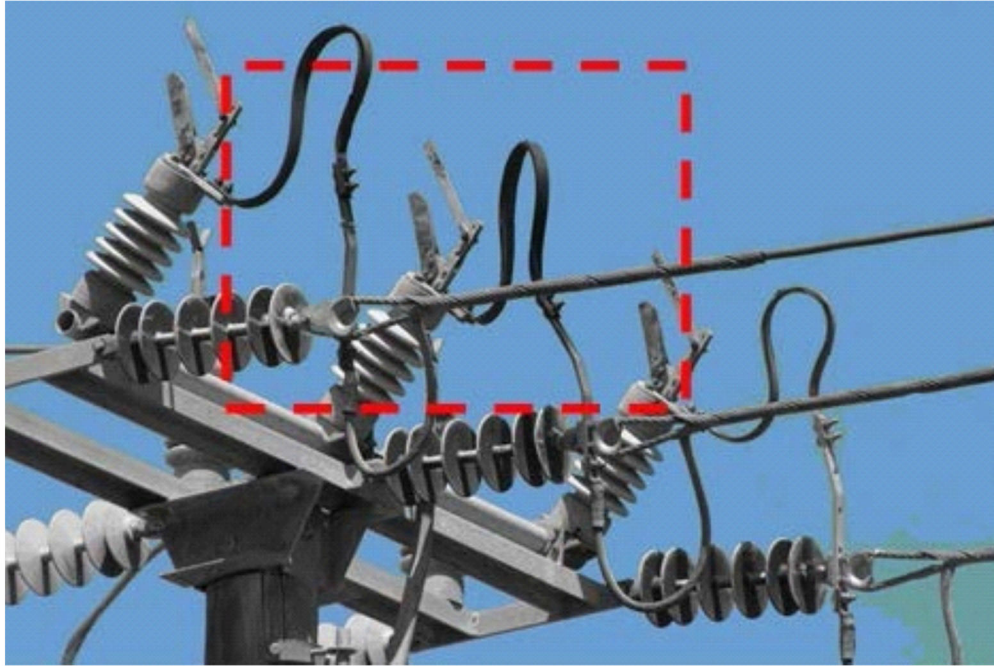

FIGURE 1
1. OLD POLE TOP SWITCHES REQUIRE THE INSTALLATION OF A SPRING (STOCK CODE CB 3056), AS SHOWN IN FIGURES 1 (SWITCH THAT REQUIRES RETAINING SPRINGS) AND FIGURE 2 (RETAINING SPRING ASSEMBLY). THE SPRING IS A STANDARD FITTING ON ALL NEW POLE TOP SWITCHES.